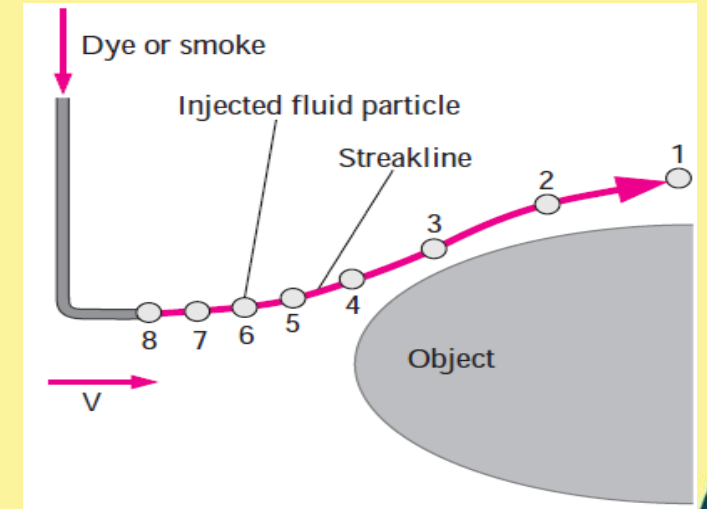

Fig.3
- Fig. 3 shows a **streakline** is formed by connecting all the circles into a smooth curve.